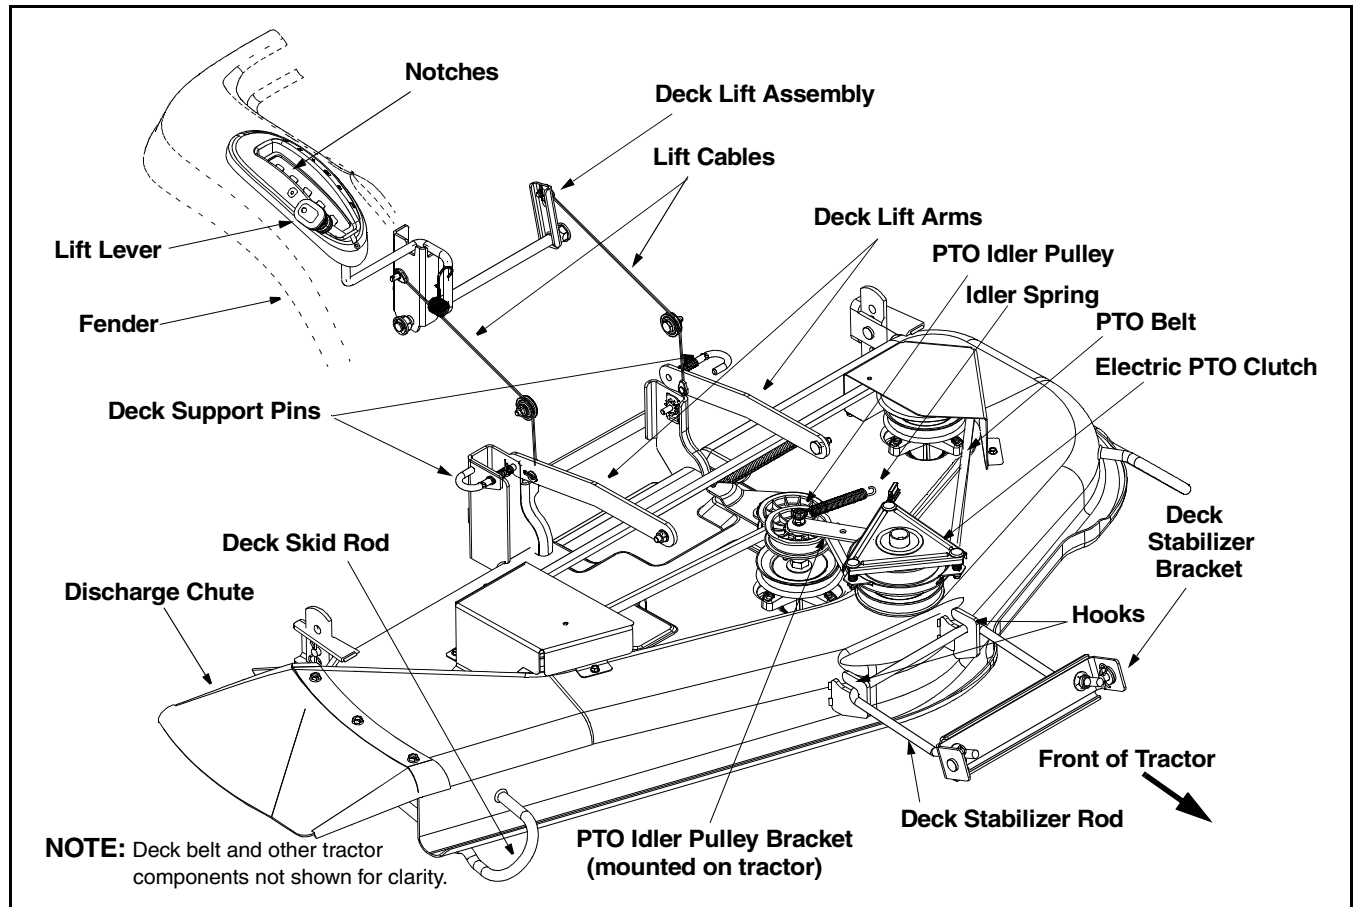

Figure 3
- Move the cutting deck into position so that the hooks found on the front end of the deck fit snugly around the deck stabilizer rod as shown in Figure 3.
- Raise the left side of the cutting deck by grasping the deck skid rod and lifting upward. Pull the deck support pin (on the left side of the deck) outward and align it with the hole on the rear of the left deck lift arm before releasing the pin to lock it in place as shown in Figure 3. Repeat on the right side.
- Route the PTO belt around the electric PTO clutch as shown in Figure 3.
- Grasp the PTO idler pulley bracket and pull it towards the discharge chute, then route the belt around the PTO idler pulley as shown in Figure 3.